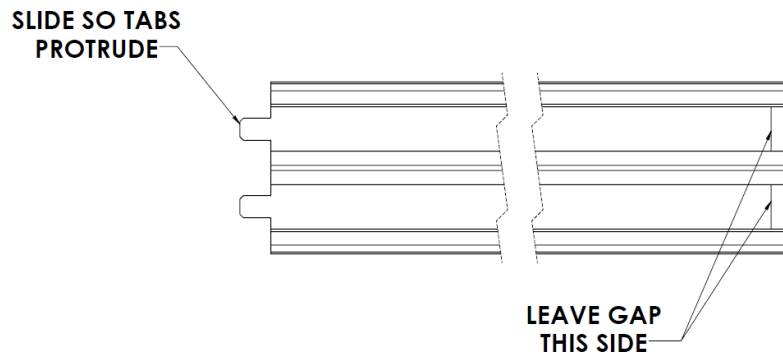

Figure 56: **Slide Metal Strips 1/2" Out of Plastic Insulator**
- d. Slide the metal strips inside the TransStrip back so the male terminal tabs protrude from the plastic insulator (Figure 56).